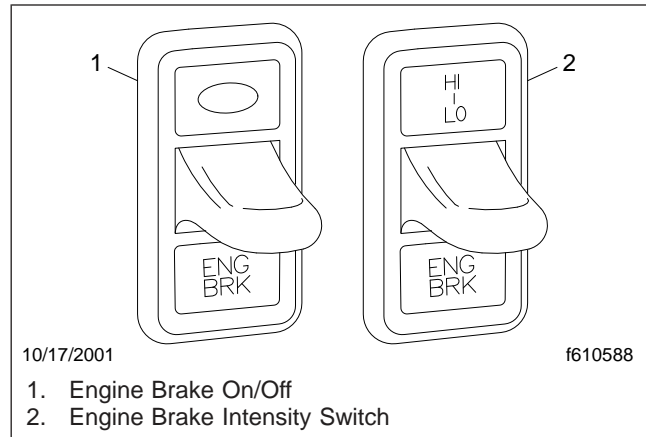

Fig. 5.22, Engine Brake Switches
- The On/Off switch (ENG BRK), is used to turn the engine brake on and off. See Fig. 5.22.